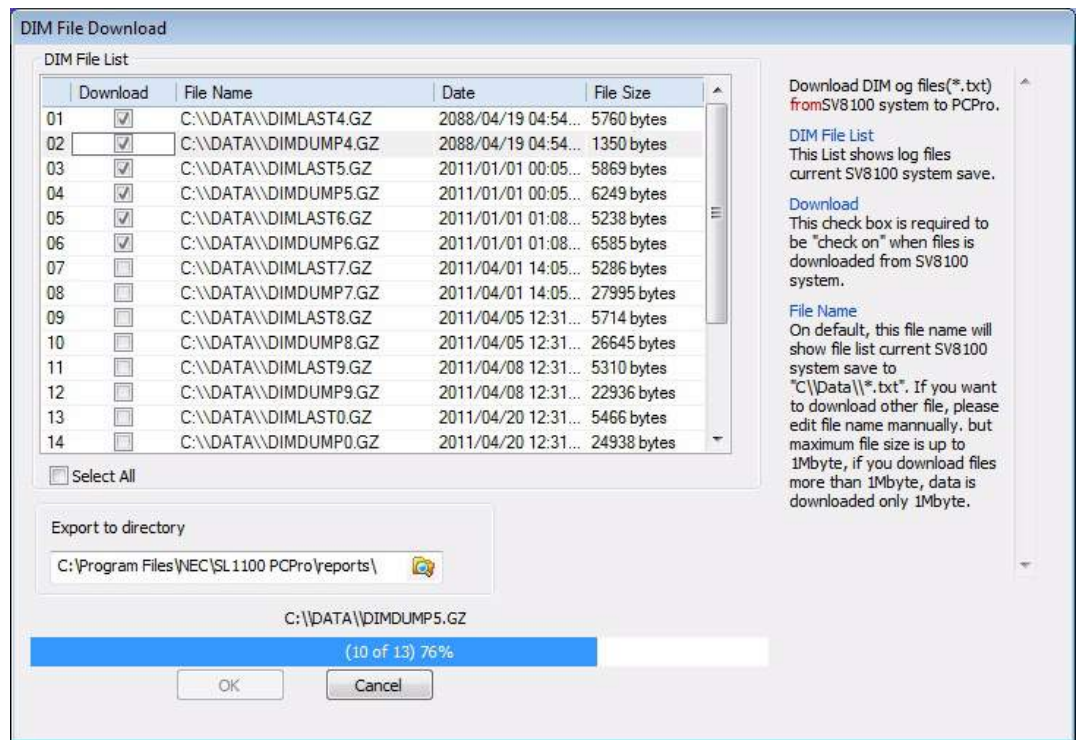

Figure G-3 DIM File Download Status
3. Click **OK**. PCPro begins downloading the selected file(s) from the system. A status line on the bottom indicates which file is being downloaded at that moment. Refer to Figure G-3 - DIM File Download Status.